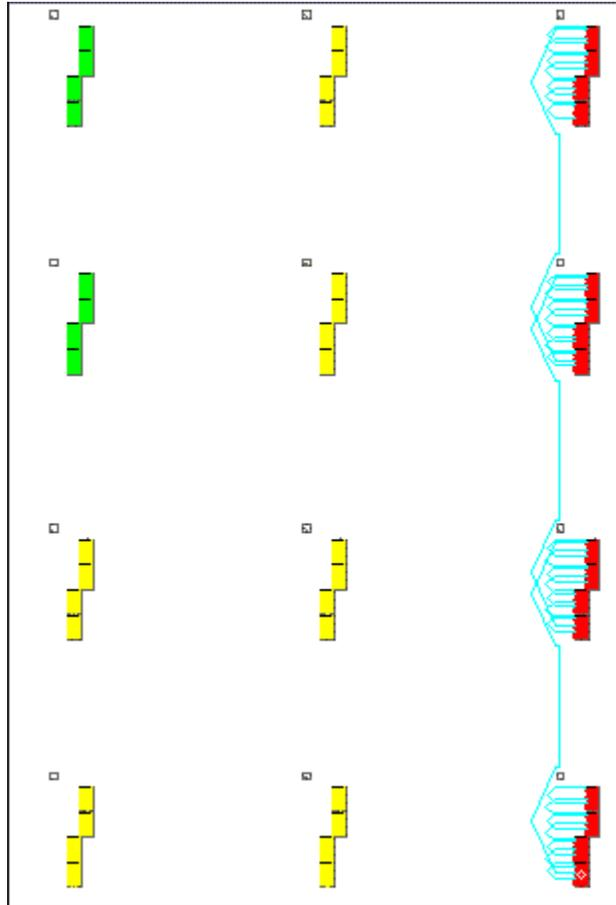

Figure 10: Correct Placement of tap\_dly Circuits
6. If the tap delay circuit is properly constrained, the logic is located in a single column in four sequential Configurable Logic Block (CLBs). This will indicate the RLOC\_ORIGIN is correct. Figure 10, page 108 is a screen capture showing an example of the correct placement of the tap\_dly circuits.